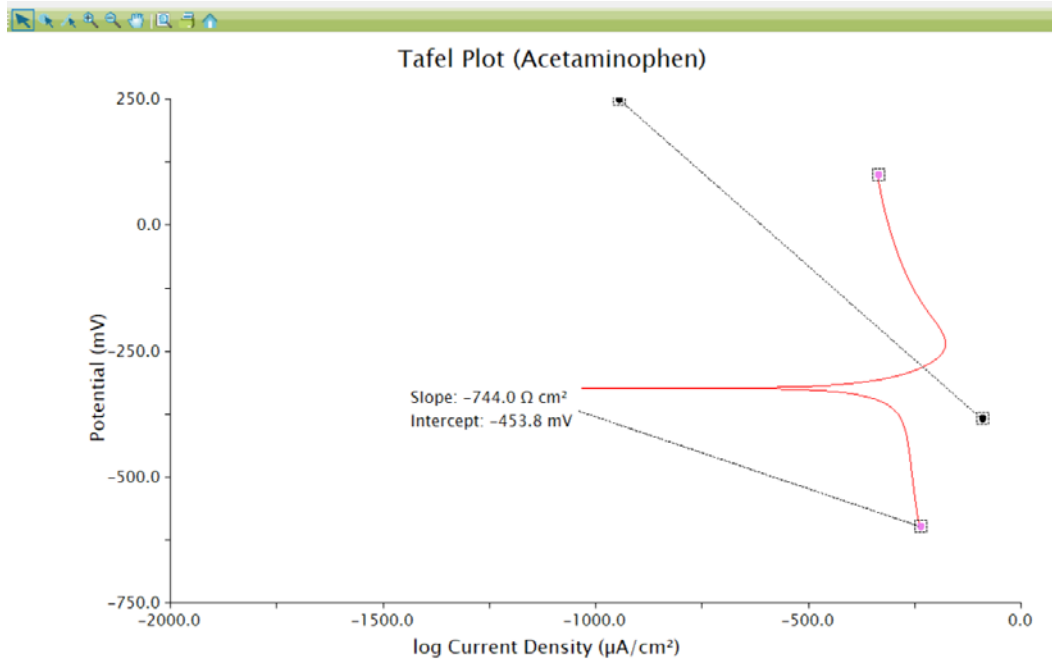

Figure 3-2. Addition of Baseline Tool to Tafel Plot for Slope Determination
1. Right click the LSV data on the plot and choose *Add Tool* → *Baseline* (see: Figure 3-2).